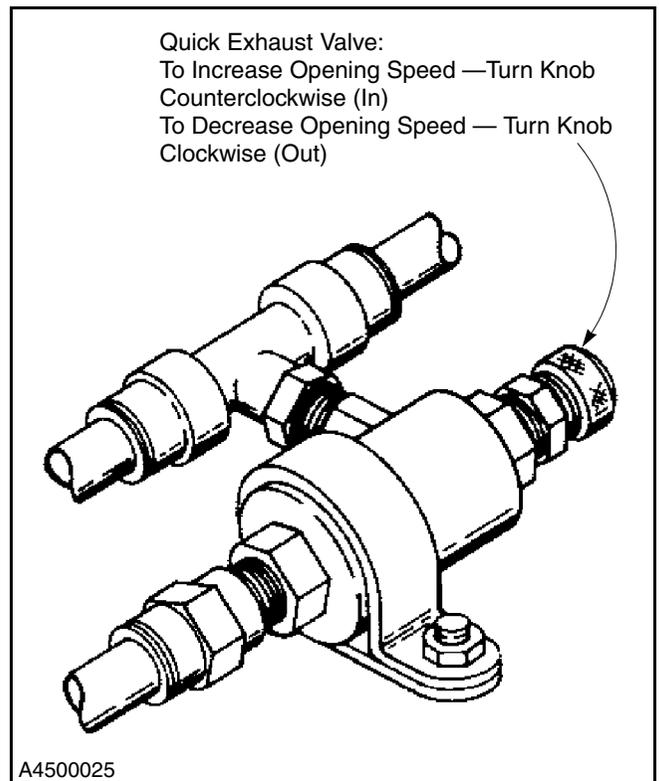

Figure 20
3. The opening speed for the door was preset at the factory. If a faster or slower opening speed is desired, turn the knurled knob on the quick exhaust valve as described below. (see Figure 20.)